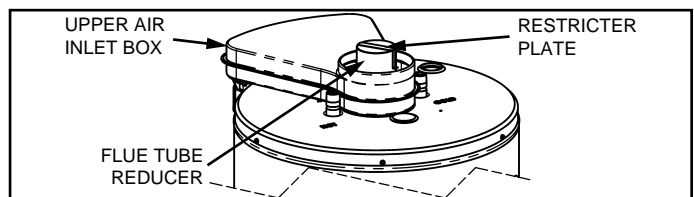

FIGURE 21
* If the horizontal distance is less than 30 in., the restrictor plate must be installed (see Figure 21).